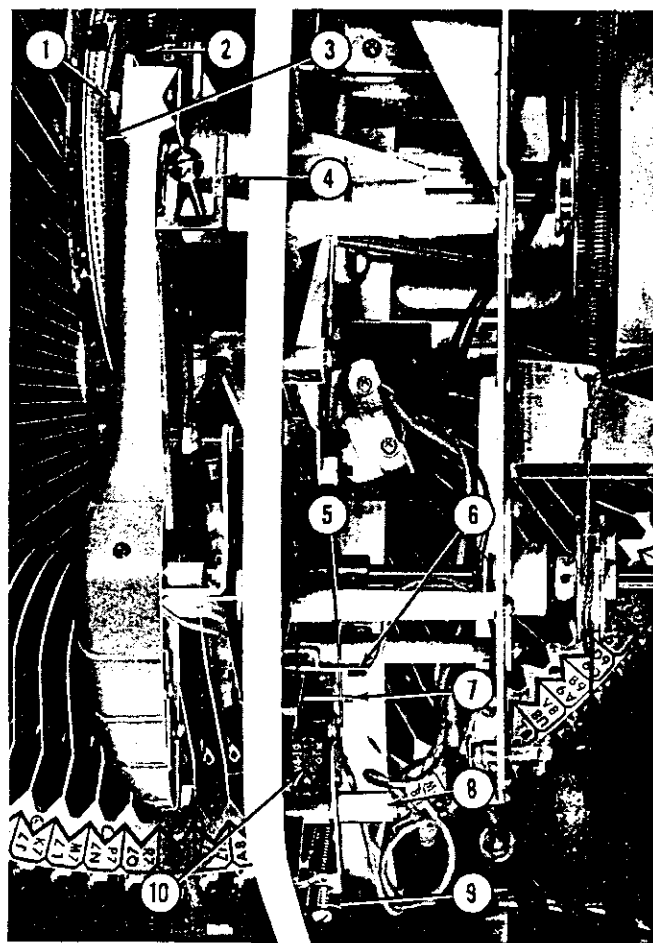

Fig. 91. TRIP SWITCH ADJUSTMENT
v. Trip Switch Adjustment. (Fig. 91)
The trip switch is actuated by a bracket on the tone arm (Item 6, Fig. 91). The action of the trip switch is advanced or retarded by turning the adjustable stop screw (Item 9). The operation of the trip switch should occur when the record has completed its playing. However, some records must use more record space than others, therefore the trip action should be delayed long enough to accommodate the majority of records. As in making the tone arm feed-in adjustment, there are two methods presented for making the adjustments of the trip switch. As before, one method utilizes record disc X42226, and the other depends on measurement as follows:
(4) The trip switch adjusting screw may now be adjusted to a point where inward movement of the tone arm will actuate the trip switch exactly where the pick-up needle has reached the inner groove of record disc X42226, as shown at Item 1, Figure 91.